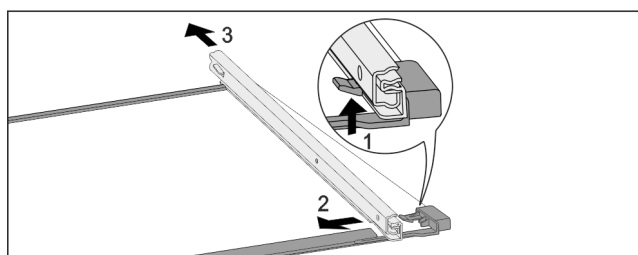

Fig. 150 Glass shelf with rails
- ▶ Push up front click-in hooks. Fig. 150 (1)
- ▶ Slide pull-out rails to the side Fig. 150 (2) and backwards Fig. 150 (3).